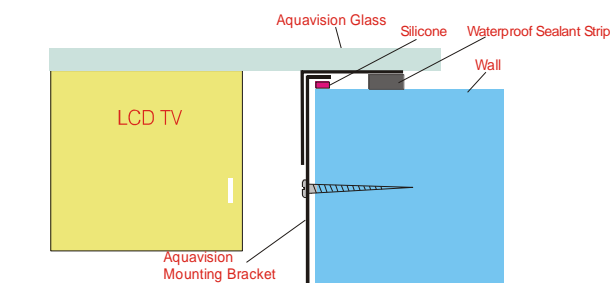

Fig 2. Installation Schematic
5. Carefully sink this back box into the hole that you checked earlier ensuring that the silicone gives a good waterproof seal against the wall and fastens securely, being careful not to distort the box when tightening the fixings. You must take care not to bend or damage the sides or outer flanges of the box as this could potentially hinder any waterproofing qualities and thus void any warranty. Note it is not advisable to use raised border tiles under the edge of the bezel frame (See Fig. 2).